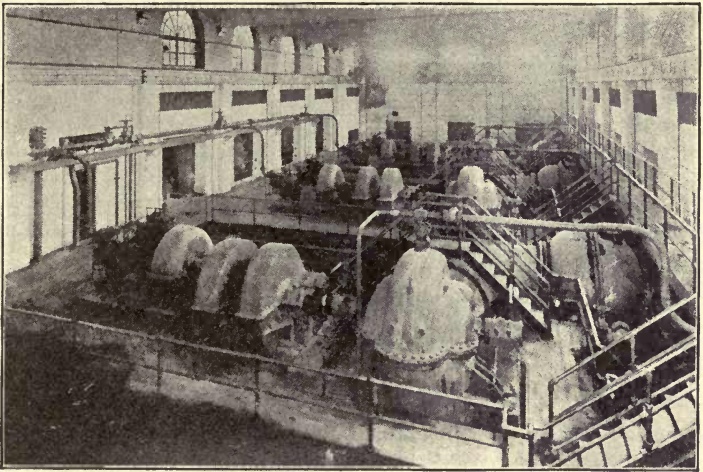

FIG. 107. — Low Lift Pump Room, Cleveland, Ohio.
**Common Uses of Water.** — Great quantities of water are used daily in our large cities, and the problem of supplying pure and wholesome water for the people of a great city like New York is by no means a small one. Each city has a different problem, depending upon its location, the nature of the underlying soil and rock, and the amount of water needed. Many cities pump the water from deep wells near by; others carry the water in immense tubes for miles from some source which has a higher altitude than the city to be supplied; other cities like Chicago or Cleveland take the water from the lakes near by; still others use the rivers (Figure 107).